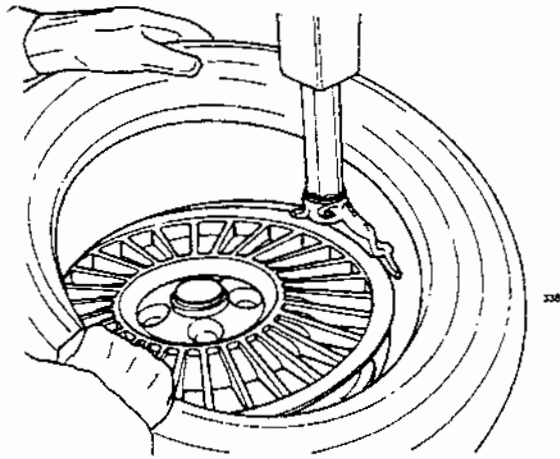

Fig.20
B. Lock the rim to the turntable and rotate it so that the valve is at the 2 o'clock position. Place the tire to be mounted on the rim. Swing the mount/demount arm so that the mount/demount head is in the working position. (Fig. 20) Engage the lower bead OVER the mount/demount head and UNDER the mounting finger of the mount/demount head (Fig.20). Turn the wheel clockwise (right pedal down) while simultaneously pushing the tire down into the drop center, opposite to the mount/demount head.